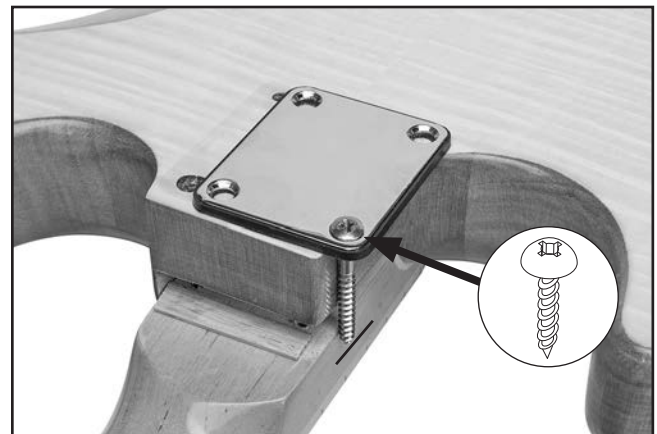

Figure 8. Depth of screw tip marked on neck.
5. Place neck plate and neck plate gasket on top of body so a mounting hole extends beyond body and neck (see **Figure 8**).
6. Insert (1) M5 x 45 Phillips head screw through plate and gasket (see **Figure 8**).
7. Gently mark screw tip depth on neck with a pencil (see **Figure 8**).